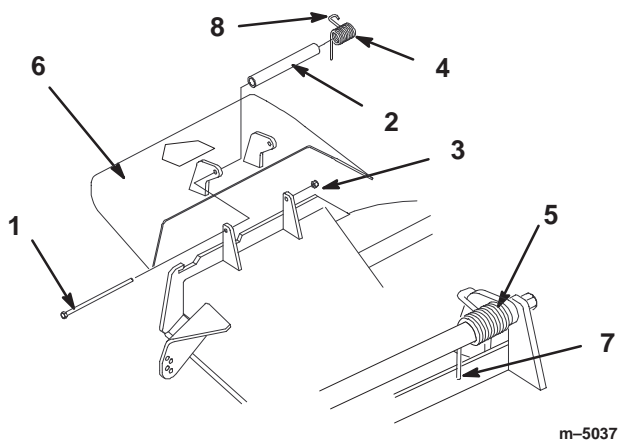

Figure 67
1. Remove the locknut, bolt, spring and spacer holding the deflector to the pivot brackets (Fig. 67). Remove damaged or worn grass deflector.
Note: Make sure the straight end of spring is installed behind deck edge before installing the bolt as shown in figure 67.
3. Install bolt and nut. Place hook end of spring around grass deflector (Fig. 67).